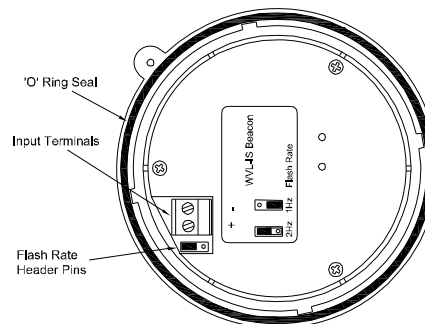

Fig 1 Location of field terminals and controls.
- Fit the required number of 20mm cable glands or conduit entries into the base and connect the field wiring to the appropriate beacon terminals as shown in section 6 and Fig 1 of this manual.
- Check that the 'O' ring seal is correctly located on the beacon section (see Fig. 1) and insert the beacon section into the base. Push it fully home and turn it clockwise to align the mouldings before tightening the security screw.
The flash rate is selected by the position of the pin header next to the input terminal block (see fig 1).